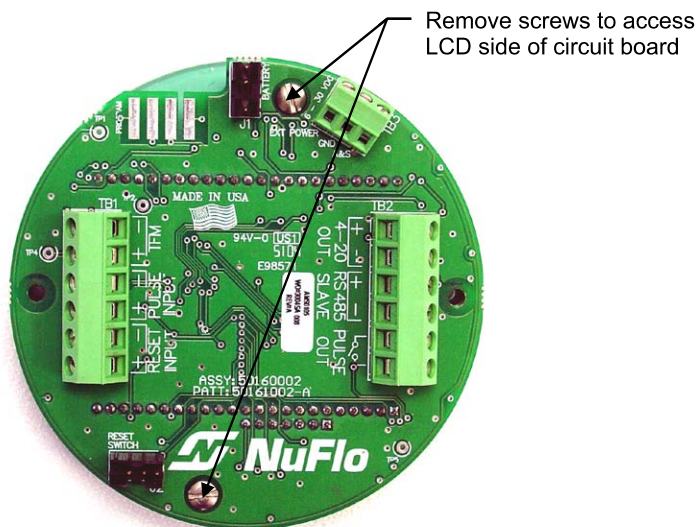

Figure 6.5—Disassembly of circuit board/keypad assembly
7. Remove the two #4-40 × 5/16" screws fastening the circuit assembly to the keypad assembly (Figure 6.5, page 96).
4. Remove the two #4-40 \times 5/16" screws fastening the circuit assembly to the keypad (*Figure 6.5, page 96*).